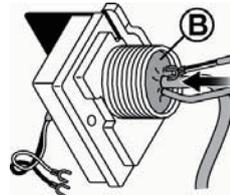
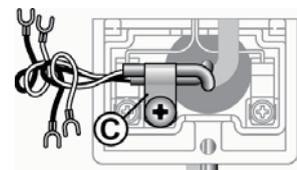

Fig.6
Fig.7
3. Thread the water controller cable through the weather seal of the cable access hole (B) (Fig.6) in the direction shown allowing sufficient cable length so that the sheath of the cable can be secured with cable clamp (C) supplied with the water controllers (Fig.7).